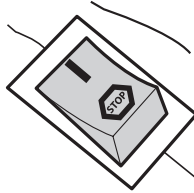

Fig. 12a
2. Set the ignition switch (A19) to its on position "I". (See Fig. 12a)